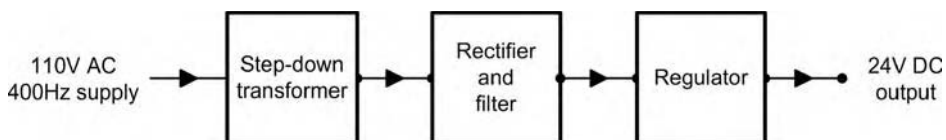

Figure 6.1 A block schematic diagram of a power supply.
In order to keep things simple, we often use block schematic diagrams rather than full circuit diagrams in order to help explain the operation of electronic systems. Each block usually represents a large number of electronic components and instead of showing all the electrical connections we simply show a limited number of them, sufficient to indicate the flow of signals and power between blocks. As an example, the block schematic diagram of a power supply is shown in Figure 6.1. Note that the input is taken from a 400 Hz 115 V alternating current (AC) supply, stepped down to 28 V AC, then rectified (i.e. converted to direct current (DC)) and finally regulated to provide a constant output voltage of 28 V DC.